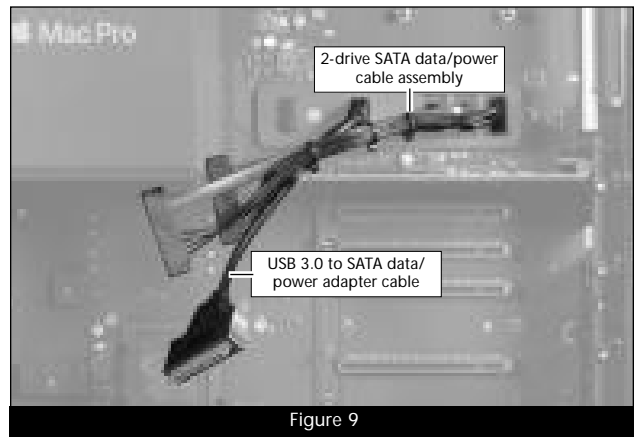

Figure 9
3. Plug in the 2-drive SATA data/power cable assembly cable to the corresponding ports on the logic board (**Figure 9**); **make sure the connectors are plugged in securely.**
4. If you did not install a third drive (2.5-inch SSD), go to the next step. Otherwise, plug in the USB 3.0 to SATA data/power adapter to the USB port on the logic board (**Figure 9**); **make sure the connector is plugged in securely.**